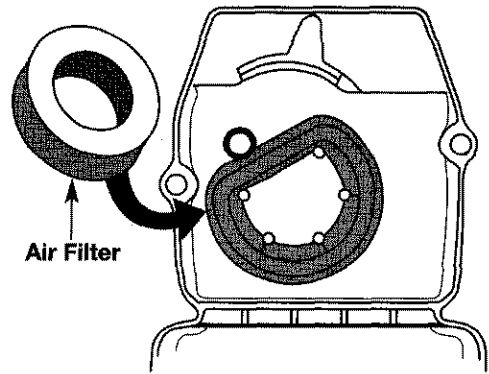

Fig. 30
2. Remove the air filter from behind the air filter/muffler cover (Fig. 30).
6. Replace the air filter in the air filter/muffler cover (Fig. 30).